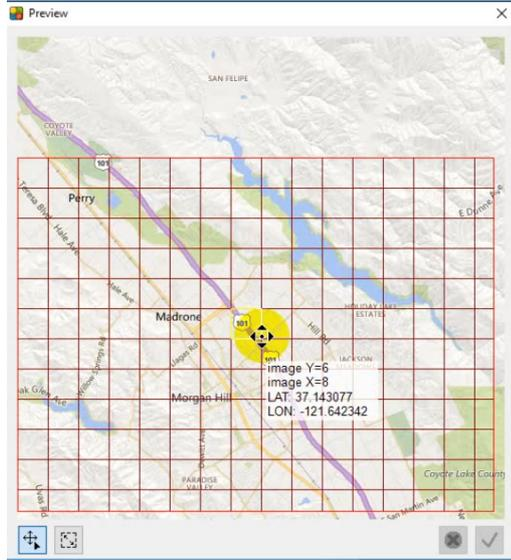

Figure B-2. Preview Map
5. Click to preview to confirm the map is centered around the area to be Spectrum Analyzed as shown in Figure B-2.